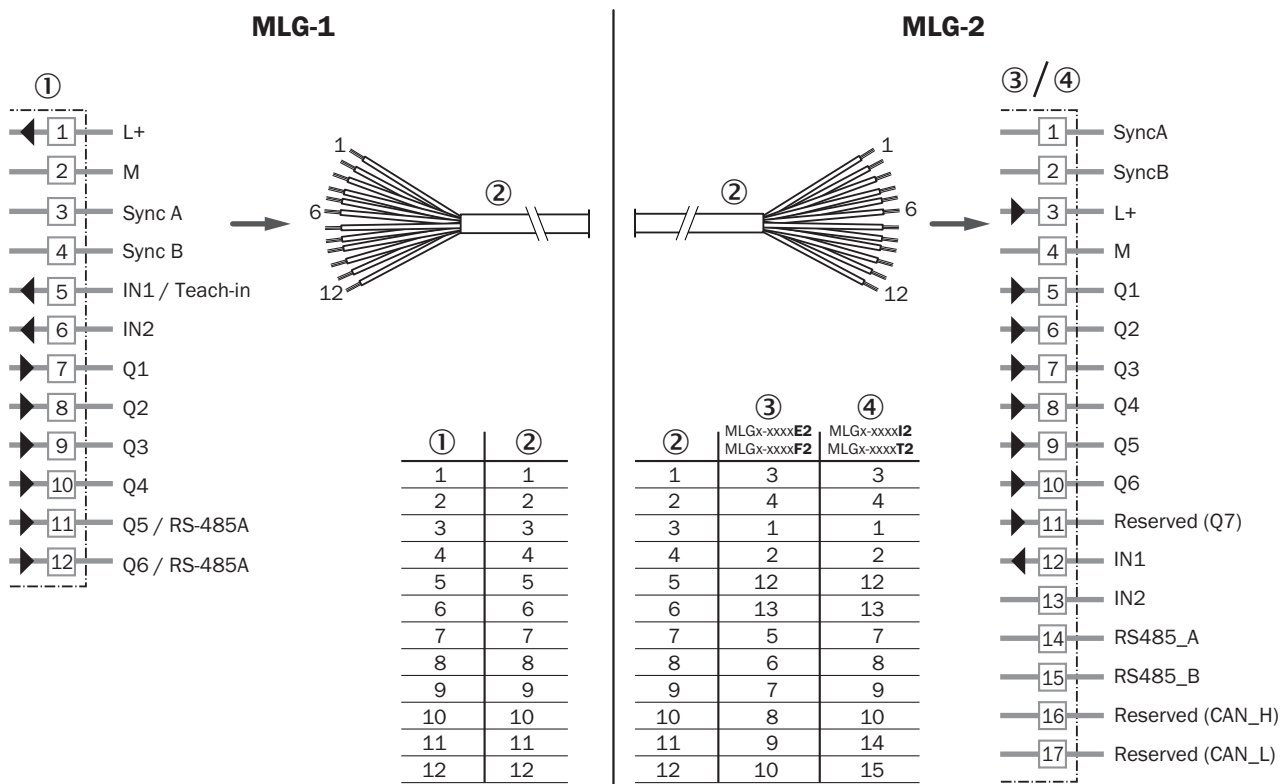

Figure 12: MLG-1, replacing a receiver that has a terminal compartment
2. Plug the connecting cable into the “AFB” terminal box as shown below (see figure 12, page 21).